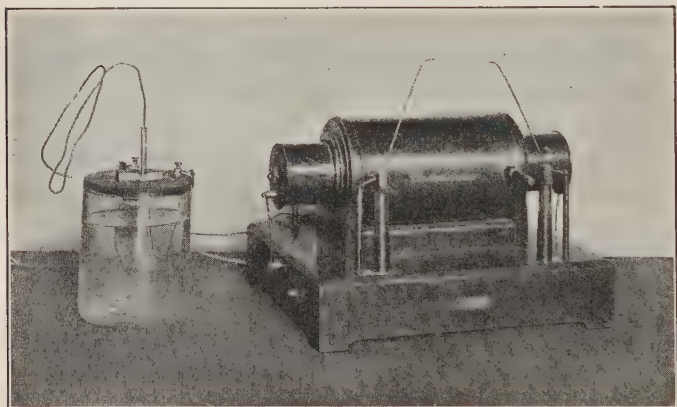

FIGURE 483. — INDUCTION COIL.
**320. The Induction Coil.** — A Ruhmkorff induction coil (Figure 483) is essentially the same device as that described